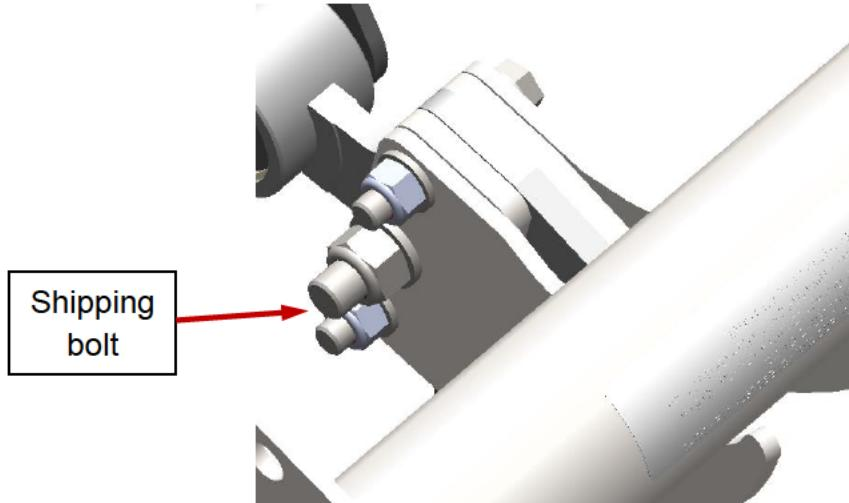

Figure 7-2: Shipping Bolt
7. Remove the shipping bolt shown in Figure 7-2. Keep the shipping bolt in the event the pantograph is removed from the car roof and shipped via truck to another location in the future.